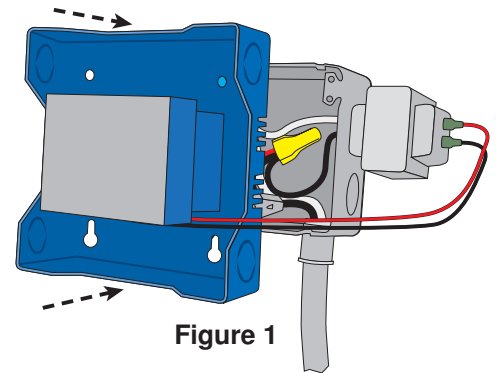
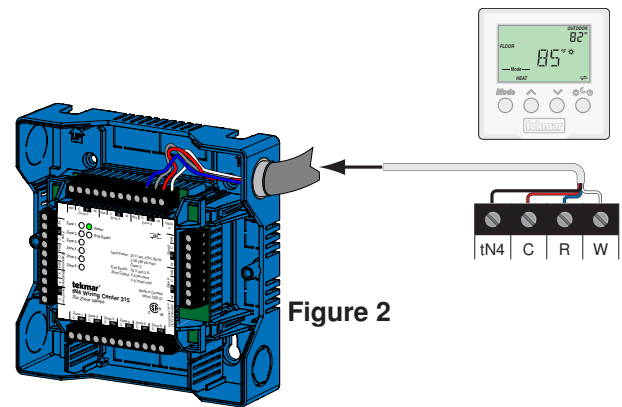

Figure 1
Figure 2
- Wiring will enter through either side knockouts or between the base of the enclosure and the cover on the sides and top. See Figure 1 and Figure 2.
- Connect tN4, C, R and W conductors to the corresponding terminals on the 315, paying special attention to ensure that the tN4 and C wires are not reversed. See the terminal labelling in Figure 2.